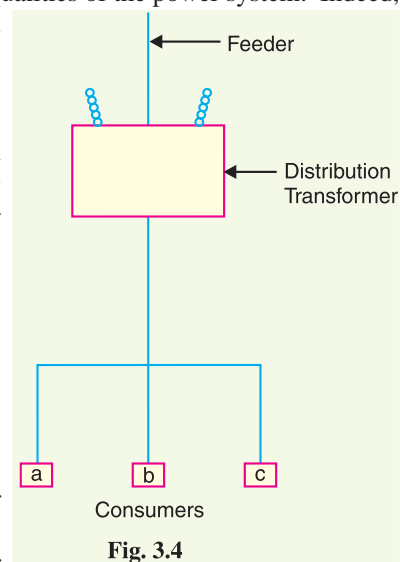

Fig. 3.4
**Illustration.** Load and demand factors are always less than 1 while diversity factors are more than unity. High load and diversity factors are the desirable qualities of the power system. Indeed, these factors are used to predict the load. Fig. 3.4 shows a small part of electric power system where a distribution transformer is supplying power to the consumers. For simplicity, only three consumers *a*, *b*, and *c* are shown in the figure. The maximum demand of consumer *a* is the product of its connected load and the appropriate demand factor. Same is the case for consumers *b* and *c*. The maximum demand on the transformer is the sum of *a*, *b* and *c*'s maximum demands divided by the diversity factors between the consumers. Similarly, the maximum demand on the feeder is the sum of maximum demands on the distribution transformers connected to it divided by the diversity factor between transformers. Likewise diversification between feeders is recognised when obtaining substation maximum demands and substation diversification when predicting maximum load on the power station. Note that diversity factor is the sum of the individual maximum demands of the subdivisions of a system taken as they may occur during the daily cycle divided by the maximum simultaneous demand of the system. The “system” may be a group of consumers served by a certain transformer, a group of transformers served by a feeder etc. Since individual variations have diminishing effect as one goes